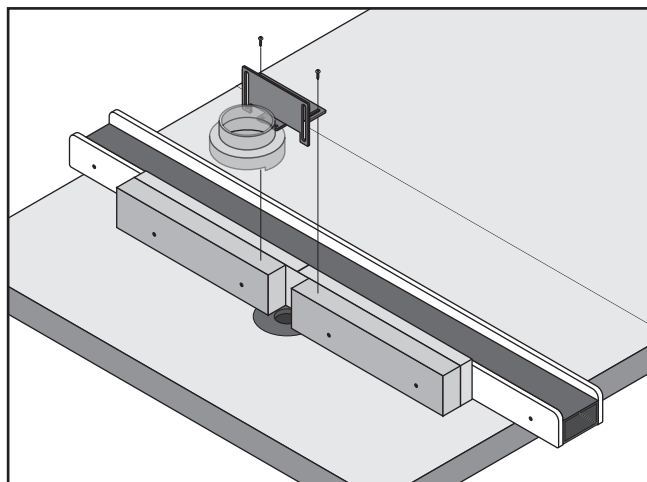

Figure 29. Attaching router guard.
19. Center the guard over the table opening and attach the guard assembly to the top of the fence boards with the two provided wood screws, as shown in **Figure 29**.